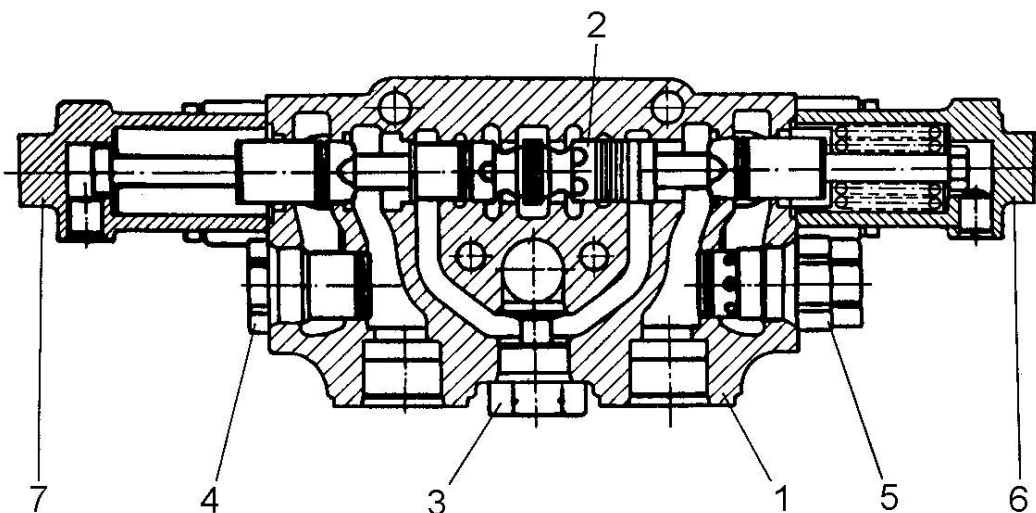

Fig. 10B.7. Cross Section View of Ripper Lift Section
1. Remove the check load valve (3, Fig. 10B.7), the port plug (4) and the anticavitation valve (5). The anticavitation valve (5), the plug (4) and the check valve (3) are the only replaceable parts.
2. If needed, remove the float spool positioners (6 and 7) bolts and then remove float spool (2).